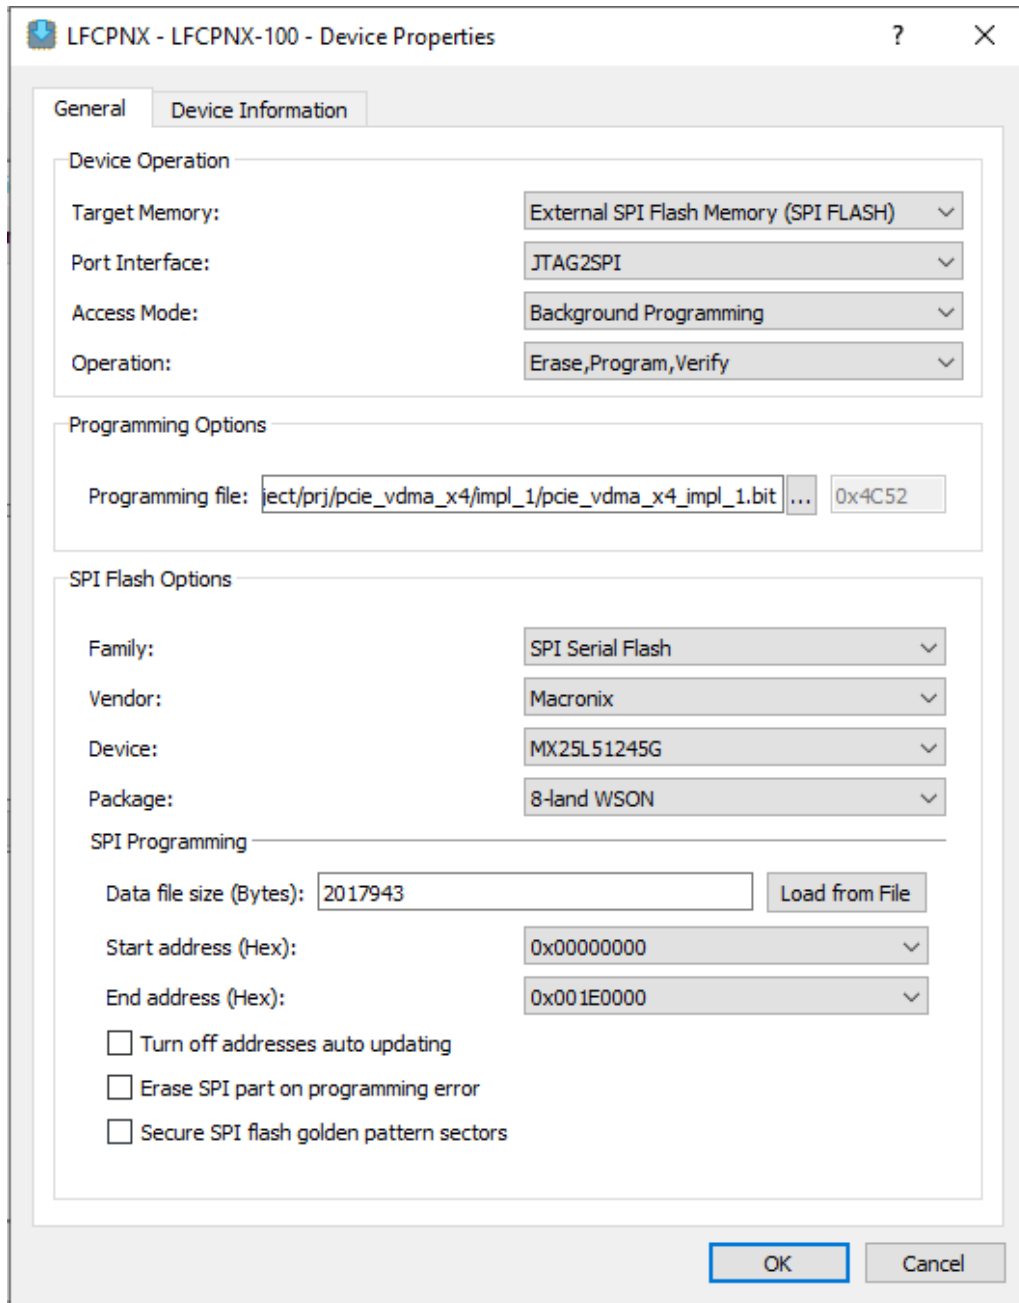

Figure 4.3. Device Properties Dialog
8. The **Device Properties** dialog box opens. Changed the settings as shown in Figure 4.3.